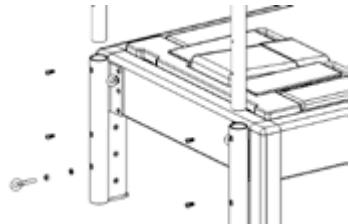

Figure 14
1. Remove the Tower tubes with Push Through Bar from the box. Do not cut the tie between the Push Through Bar and the tubes or else it can swing when lifting and hit you or someone else. On the outside of the two vertical tubes there will be (2) threaded holes, these will face out away from the machine when installed.
2. Insert the tubes into the tower brackets on the head end of the machine, making sure the threaded holes are facing you when installing. Lower the tubes carefully all the way down the tower brackets. They will touch the ground. See Figure 14.
3. Use the provided (4) 1/4"-20 x 5/8" long screws, to secure the tubes to the brackets. It may be necessary to slightly lift the tube to align the holes. Start all the screws by hand before fully tightening. Use the 5/32" Allen wrench to tighten all (4) screws to the brackets. After screws are tight, remove the tie and packaging from Push Through Bar. Install the 2 1/2" long eye bolts with a nut and a lock washer up against the tube in the bottom hole of brackets. Make sure that the eye bolt is aligned vertically when tightr.